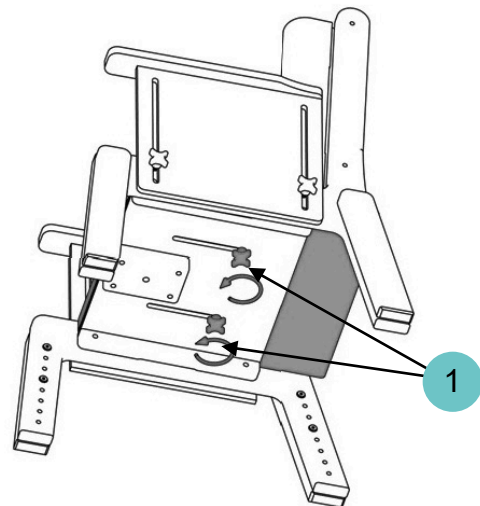

Figure 2
- Loosen handwheels (Ref. 1 of Figure 2)
- Tighten handwheels (Ref. 1 of Figure 2) when the seat depth is set to the desired position.